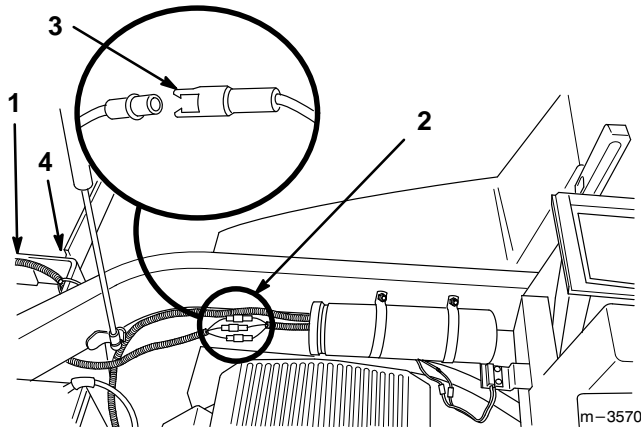

Figure 17
17. Route hopper full sensor wire harness below bumper and frame. Connect hopper full sensor wire harness terminals to (3) round terminal of main wire harness (Fig. 17).
18. Push terminals together firmly so latches lock (Fig. 17).
19. Install wire tie around bumper to hold sensor wire harness (Fig. 17).